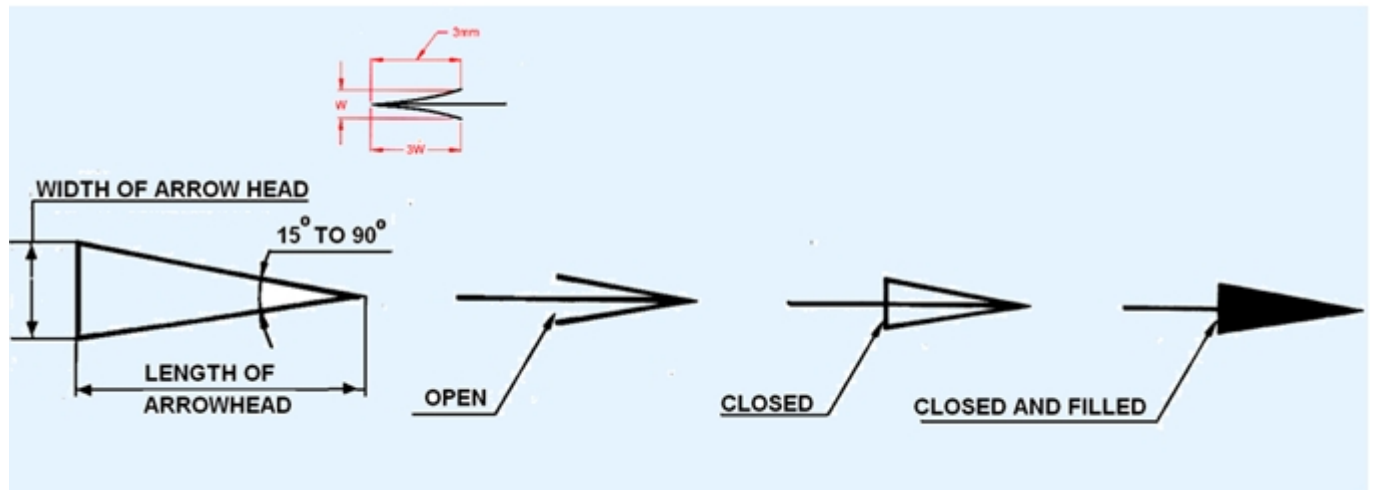

Figure 6. Various types of arrows used for dimensioning
- Arrows – 3 mm wide and should be 1/3rd as wide as they are long - symbols placed at the end of dimension lines to show the limits of the dimension. Arrows are uniform in size and style, regardless of the size of the drawing. Various types of arrows used for dimensioning is shown in figure 6.